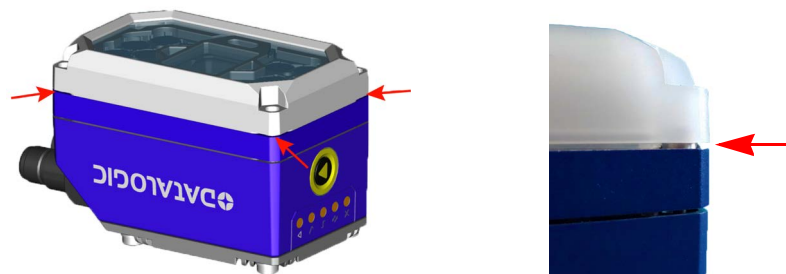

Figure 49 - Removing the cover (14 LEDs model)
2. Remove the cover. The cover will remain attached to the body because of the gasket. To unmount it properly, it is recommended to gently lever the cover from its corners using a flat blade screwdriver between the cover and the body of the reader. See Figure 49 and Figure 50.